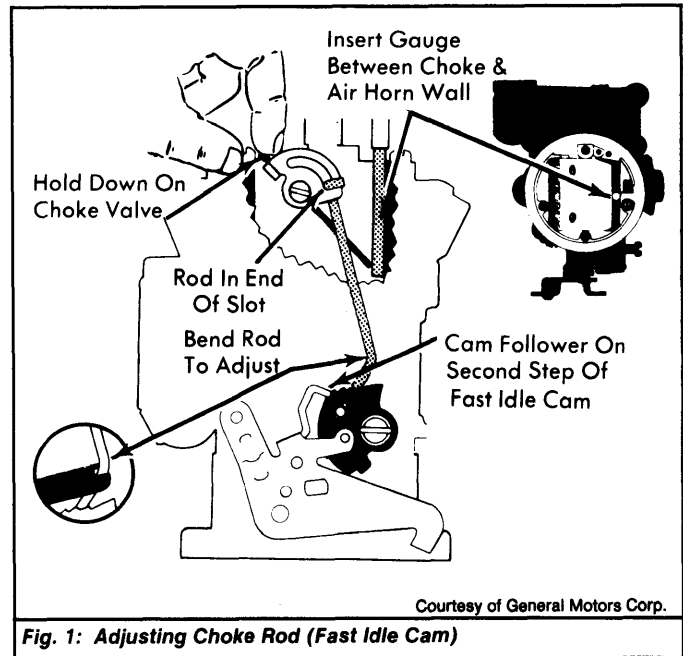

Fig. 1: Adjusting Choke Rod (Fast Idle Cam)
1) Ensure fast idle speed is correctly set. Place fast idle cam follower on SECOND step of fast idle cam, against HIGHEST step. See Fig. 1.